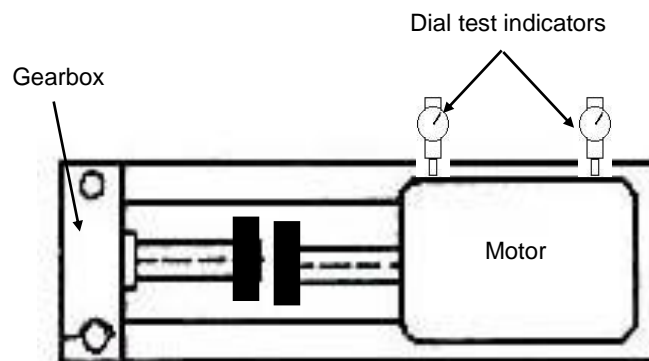

FIG 38.
- To make sure that the angular alignment (viewed from above) is not disturbed while correcting the parallel misalignment, two dial test indicators will be required as shown in Fig 38.